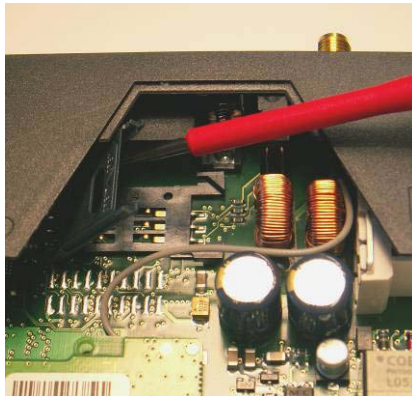

figure 2-6
7. Raise the flap of the SIM card holder so that you can insert the SIM card. (see figure 2-6).